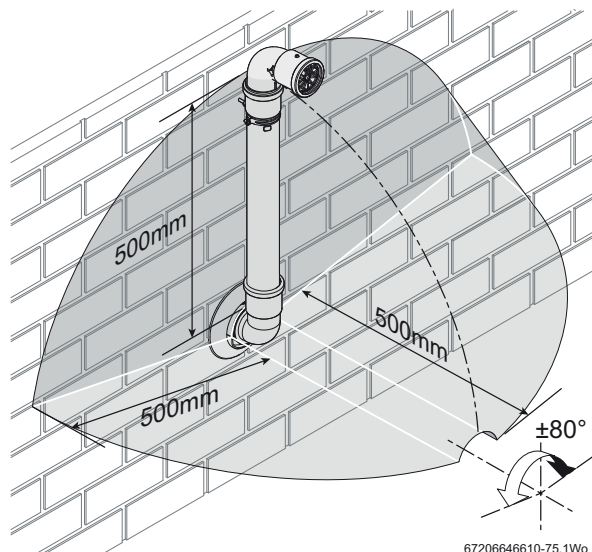

Fig. 17 Terminal exclusion zone
- Do not terminate the plume management inside the shaded area shown in figure 17